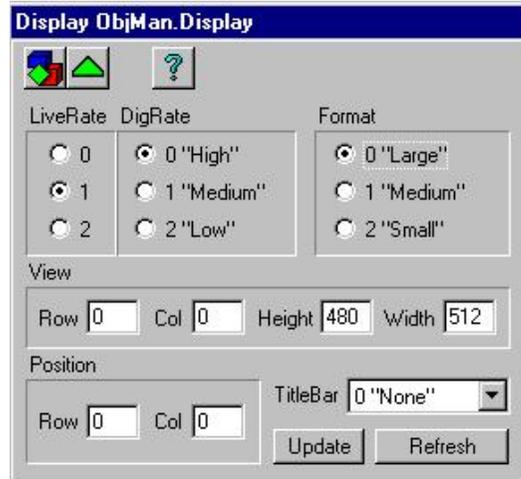

Figure 6-70—Display ObjMan.Display window
- On the DisplayObjMan.Display box, set the DigRate to 0 “High” and the Format to 0 “Large.” See Figure 6-70.